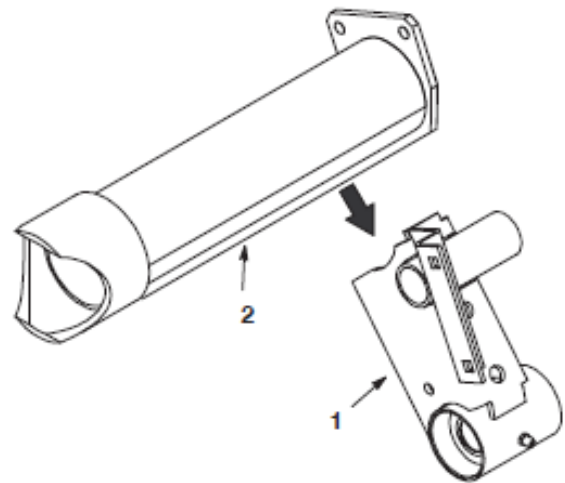

Figure 3
13. Carefully cut and remove the jack shaft support from the support tube, as shown in figure 3. Cut all four sides of the support. Use caution not to damage the support tube. Remove any excess weld from the support tube.